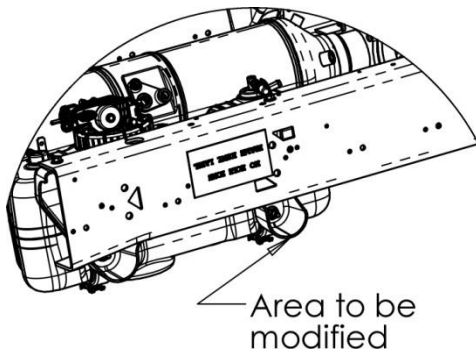
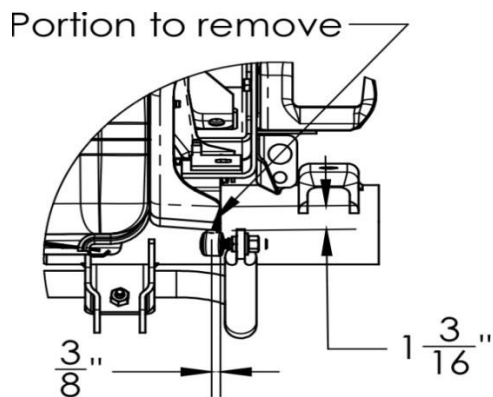

Figure 9. DEF tank mount to be modified.
Figure 10. Area to remove from DEF tank mount.
13. **[Diesel, rear mounted fuel tank vehicles only]** Locate the side mounted DEF tank. Below the frame, locate the rearmost guard around the attaching fastener, see Figure 9. Trim off the lower lip approximately 1/4"-3/8" deep and 1"-1-3/16" high. See Figure 10.